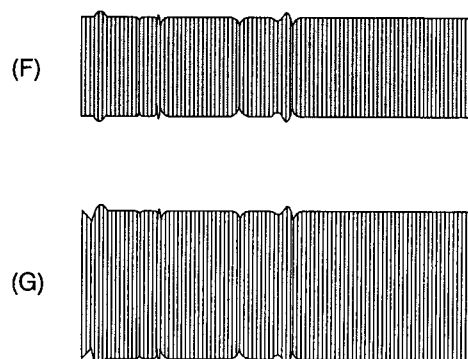

Fig. 3-2-4
4. If the amplitude level of the FM Waveform is low as in (F) in Fig. 3-2-4, set it at the maximum level as in (G), according to the following procedure. Loosen the Screws D and E and insert a screw driver (+) into the Hole in the MAIN PLATE ASSY (Part ①). Then, move the A/C PLATE to the right and left to set the amplitude level to maximum.